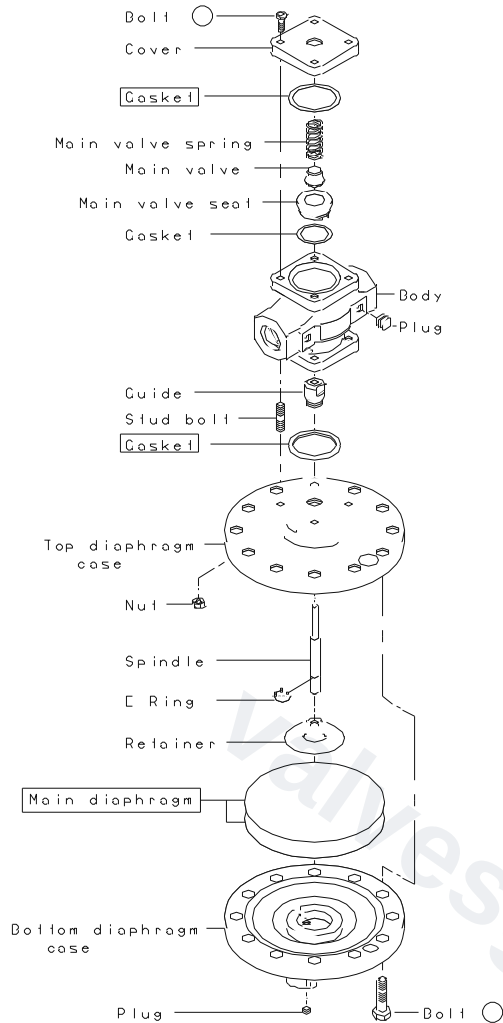

Fig.5
- (1) **Main valve (9. 5 Disassembly drawing Fig.4、Fig.5)**
- (2) **Main diaphragm (9. 5 Disassembly drawing Fig.4、Fig.5)**